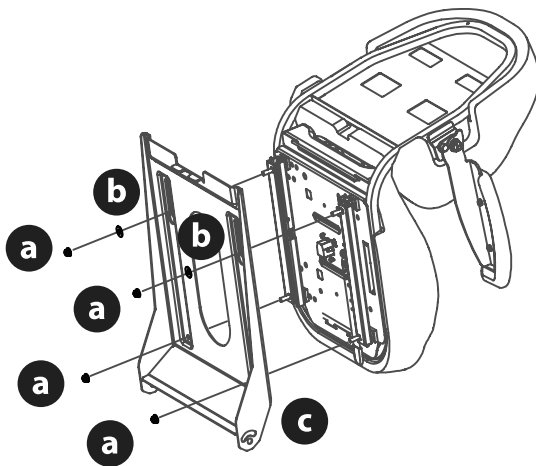

Figure 6
- b. For a Lever Adjust seat use flange lock nuts (a) and flat washers (b) (Figure 6).